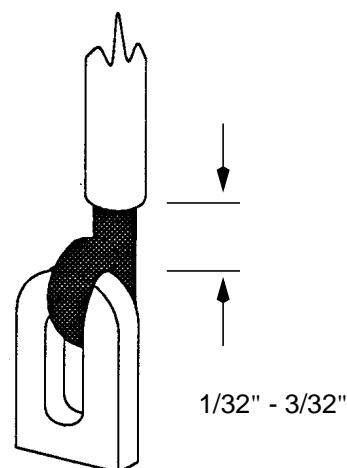

Figure 3 - Mechanical Hook-Up of Eyelet Terminals
- 5.8.1 Wrap the wire end approximately 270° through the eyelet (see Figure 3).